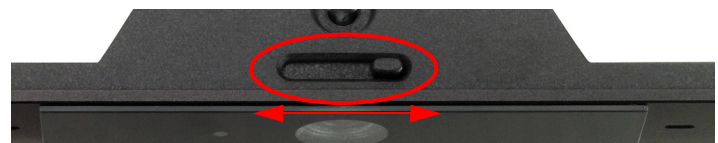

FIG. 3 SHUTTER OPERATION - LEFT TO CLOSE SHUTTER AND RIGHT TO OPEN
- The sliding shutter is at the top rear center of the unit. Refer to FIG. 3.